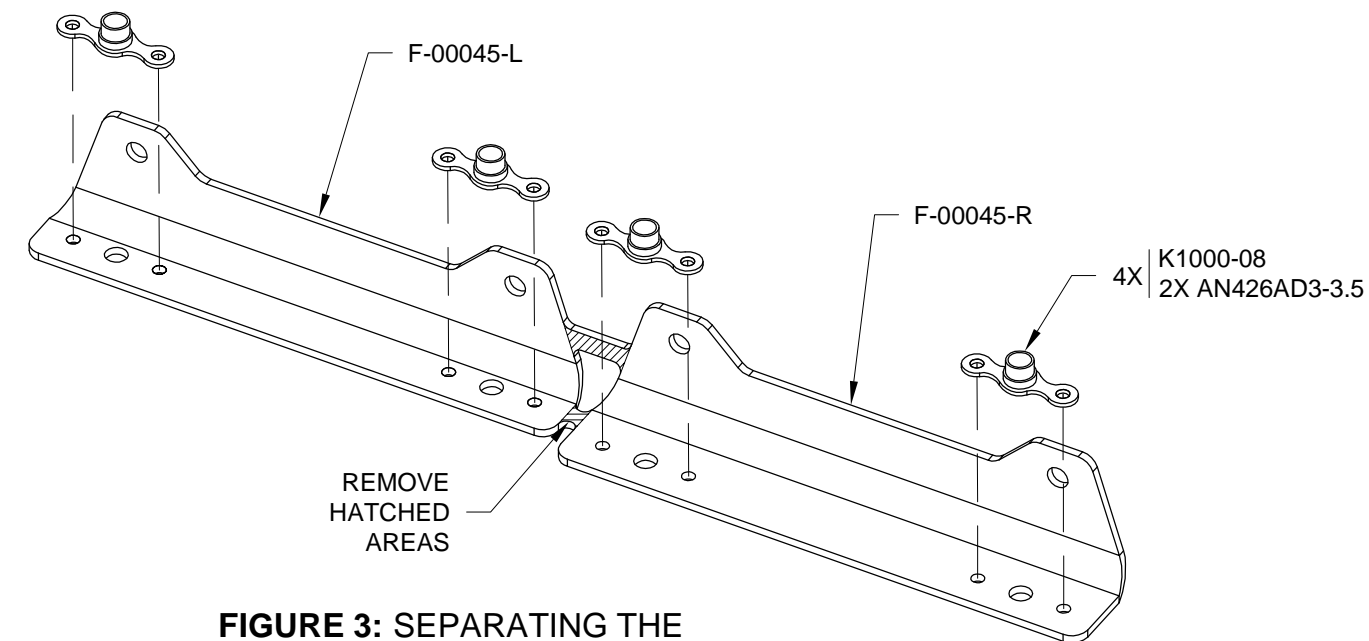

FIGURE 3: SEPARATING THE ADS-B BRACKETS
Step 3: Label and separate the F-00045-L & -R SkyView ADS-B Brackets as shown in Figure 3 by removing the hatched areas.
Step 4: Machine countersink the nutplate attach holes in the F-00045-L & -R SkyView ADS-B Brackets as shown in Figure 3.
Rivet nutplates to the brackets using the hardware called out in Figure 3.